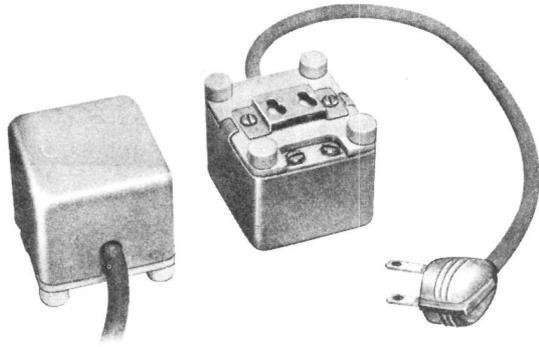

Fig. 7—2075A Transformer
**5.01** The 2075A transformer (Fig. 7) supplies power (15 to 18 volts) for the 41A dial in the 660-, 662-, 663-, and 664-type telephone sets.